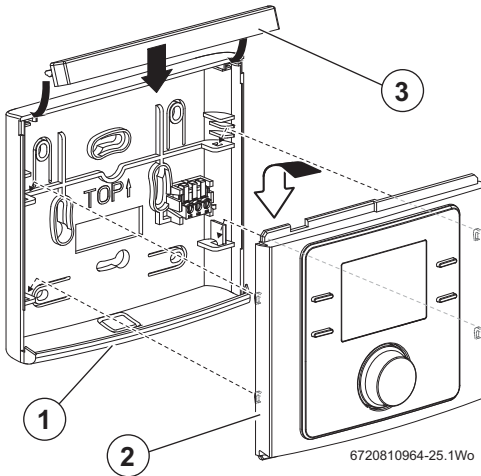

Fig. 3 Fitting Programmer to wall plate assembly
- ▶ Engage the four clips on the back of the Programmer [2] with the four slots on the wall plate as shown in figure 3